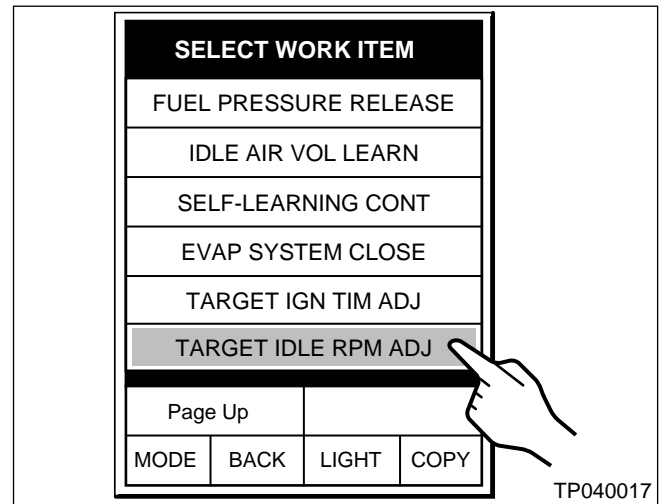

Figure 6
1. In the **CONSULT WORK SUPPORT** mode, select **TARGET IDLE RPM ADJ.** See Figure 6.